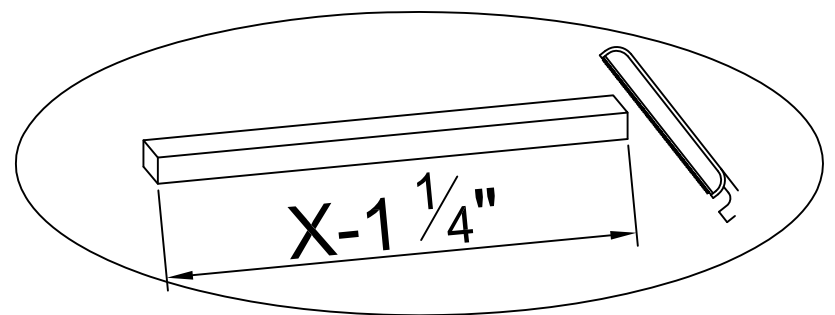

Fig.37
Cut the threshold bar (11) to to the size of : $(X) - 1\frac{1}{4}$ ". Remove any sharp edges or burrs after cutting Door Threshold bar (11). See Fig.37 for details.